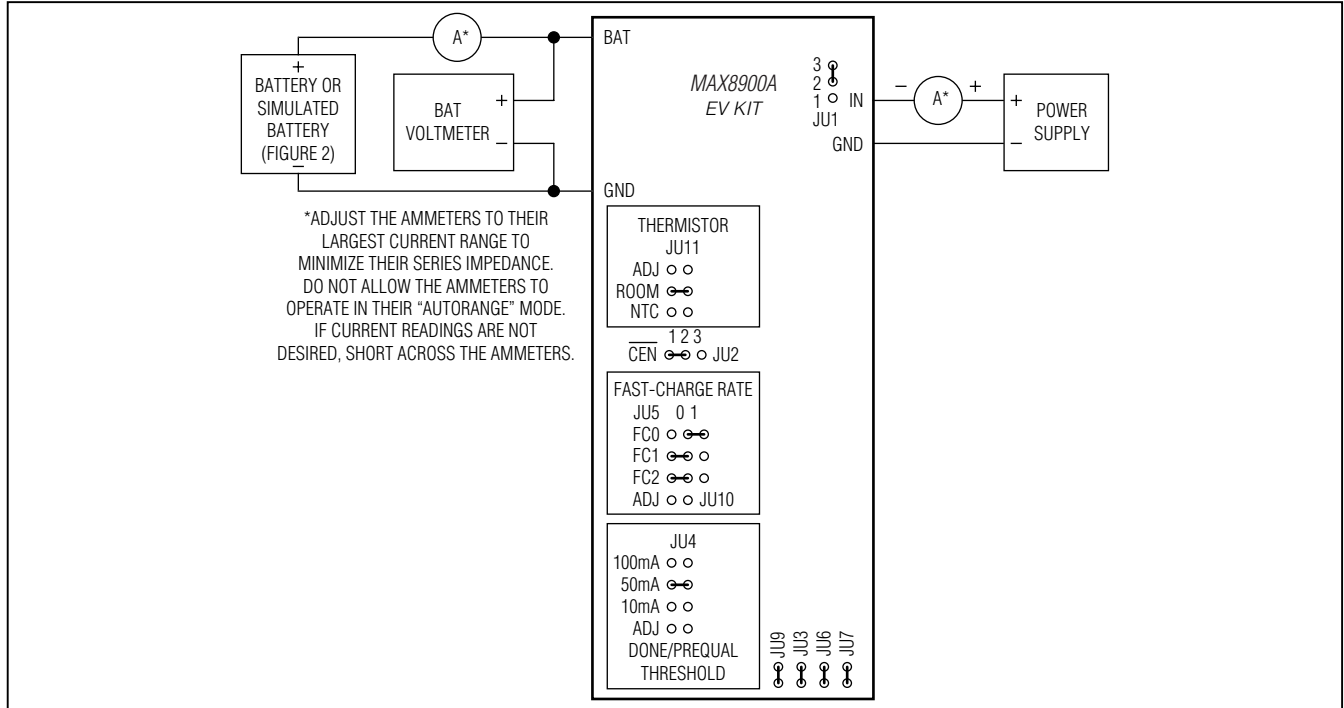

Figure 3. Connection Diagram and Default Jumper Connections
- 1) Ensure that the EV kit has the jumper settings as shown in Figure 3 and Table 1.
- 3) Connect the EV kit to the power supply, battery, or preloaded power supply and meters, as shown in Figure 3. Adjust the ammeters to their largest current range to minimize their series impedance. Do not allow the ammeters to operate in their “autorange” mode. If current readings are not desired, short across the ammeters.
As shown in Figure 3, MOSFET and resistor combinations adjust the total resistance from SET1 to ground. The MAX8900\_ supports values of fast-charge current (IFC) from 50mA to 1200mA. Table 2 shows the IFC values that are easily obtainable by adjusting jumpers JU5 and JU10. The relationship between RSET1 and IFC is as follows:
As shown in Figure 3, several different resistor values can be connected from DNI to ground by using jumper JU4. The resistance from DNI to ground sets the prequalification current (IPQ) and done current (IDN). The MAX8900A supports IDN and IPQ currents from 10mA to 200mA. Table 3 shows the IDN and IPQ values that are easily attained with the EV kit. The relationship between RDNI, IDN, and IPQ is as follows: